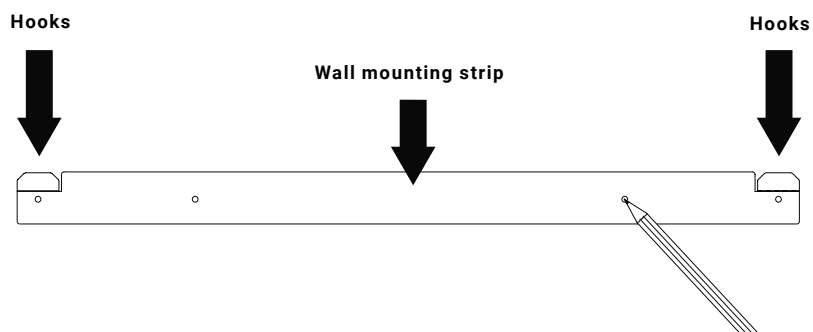

Fig. 3
4. Install the wall plugs. Then install the bracket to the wall using the supplied M4 x 30 mm screws (see figure 3).